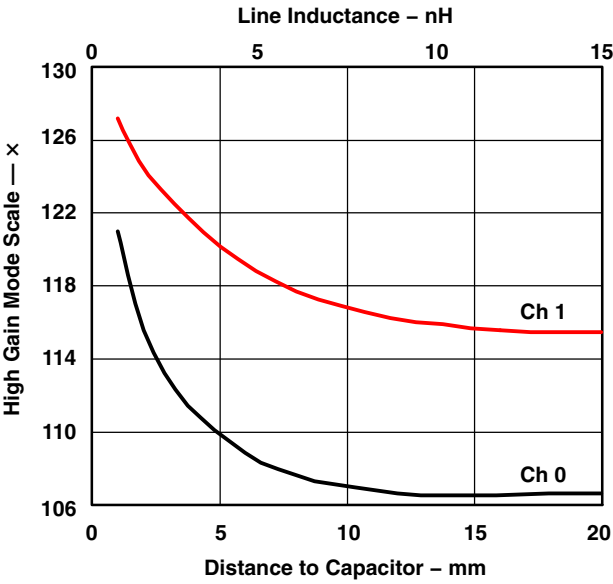

Figure 3
5. 111× gain is affected by the line inductance between the V_{DD} pin and the decoupling capacitor. See Figure 3 for 111× gain scale versus line inductance characteristic.